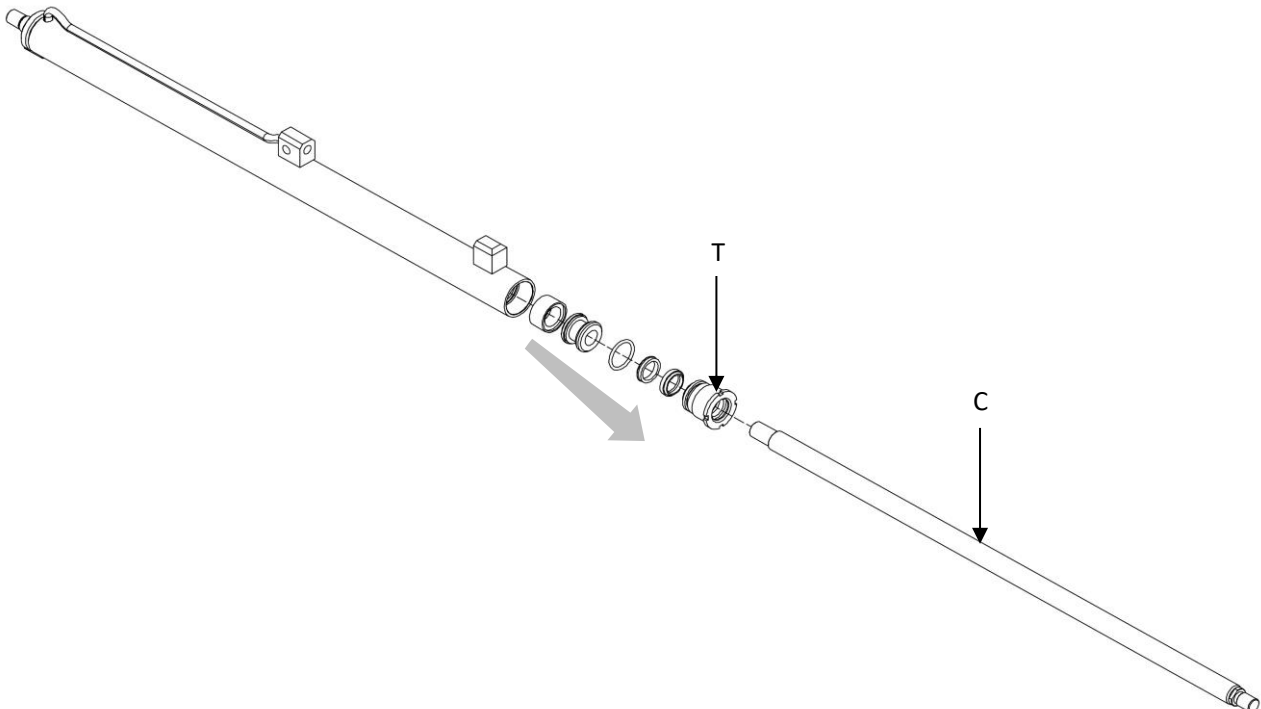

Figure 28
8. Use *Figure 28* as a guide.